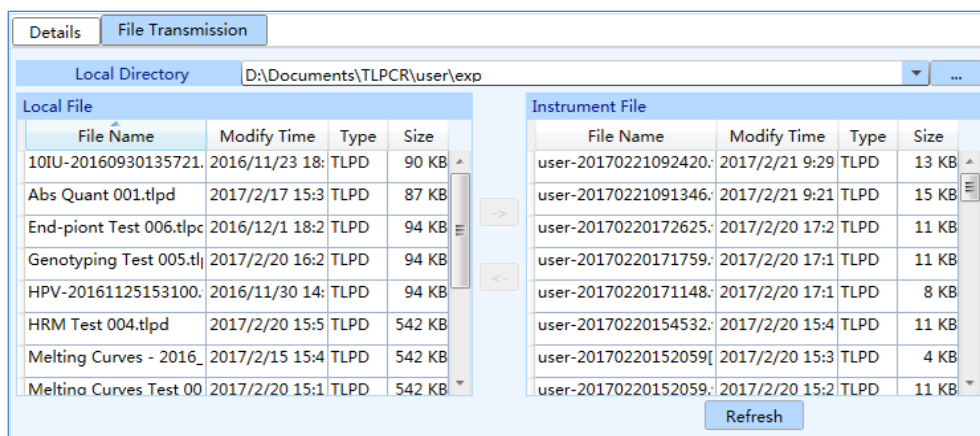

Figure D-3.2d. Instrument Management Interface - File Transmission Tab
► **File Transmission** tab: to transmit the file between the control computer and the connected Gentier instrument, as shown in figure D-3.2d.